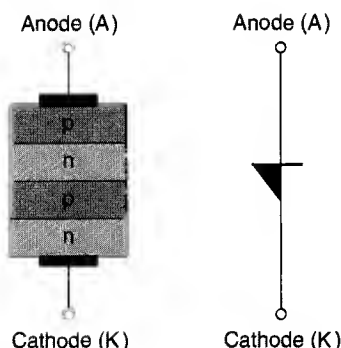

FIGURE 20.1
The simplest of the thyristors is the **silicon unilateral switch (SUS)**. The SUS is a two-terminal, four-layer device that can be triggered into conduction by applying a specified forward voltage across its terminals. The construction of the SUS (along with its schematic symbol) is shown in Figure 20.1. As you can see, the device contains two *n*-type regions and two *p*-type regions. Because of its construction, the SUS is often referred to as a *pnpn diode* or a *four-layer diode*. Note that the term *diode* is considered to be appropriate because the device has two terminals: an *n*-type cathode (K) and a *p*-type anode (A).